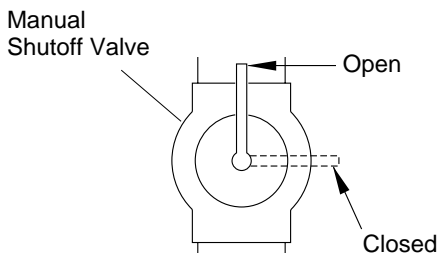

Figure 14 - Manual Shutoff Valve
1. Close manual shutoff valve (see Figure 14, page 12).
1. Open manual shutoff valve (see Figure 14).